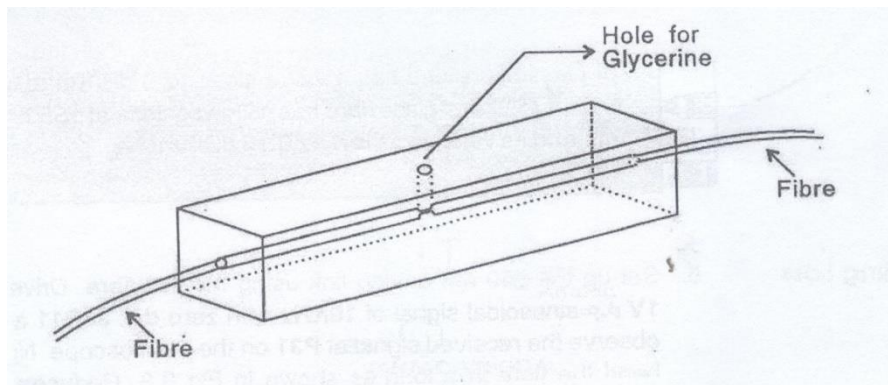

Fig. 6.5 Fiber alignment using the Alignment Unit
- Bring the free ends of both the cables (1m and 3m) as close as possible and align them using the fiber alignment unit as shown in figure 6.5.